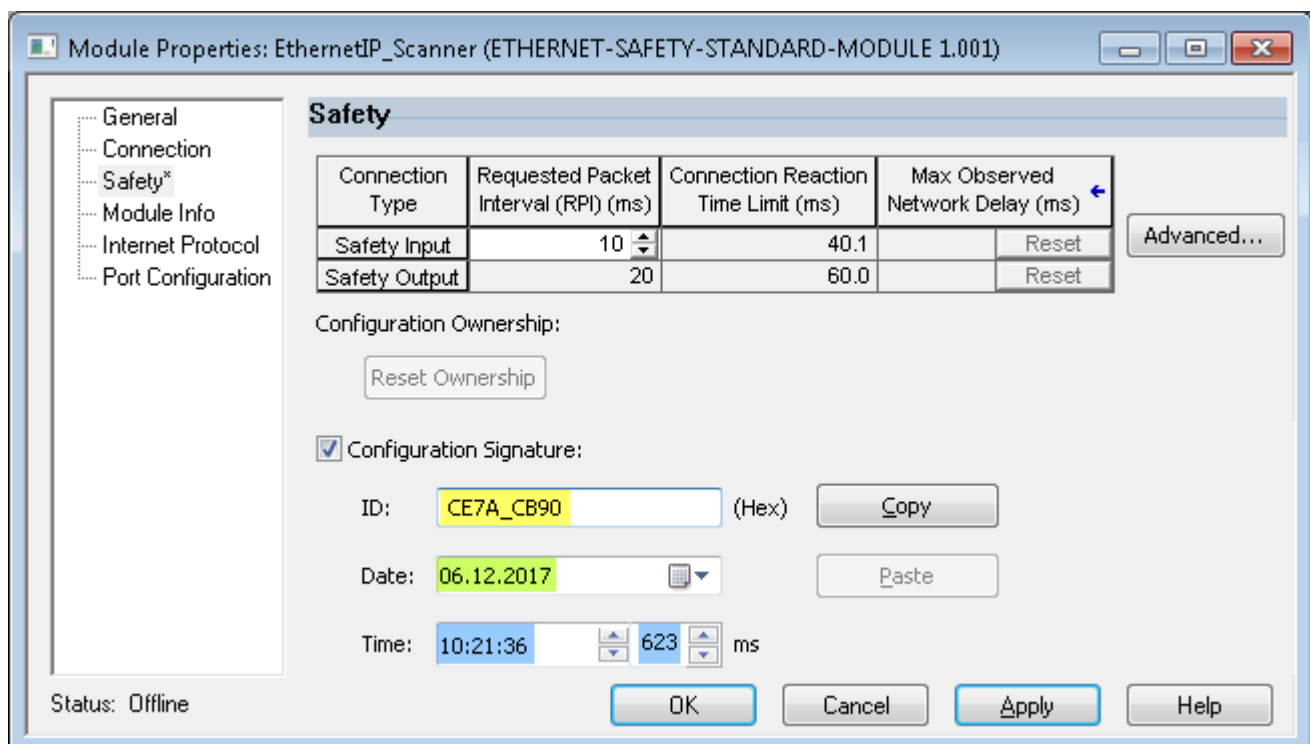

Figure 39: Studio 5000 – Configuration Signature (Part 3)
- ▶ Copy Configuration Signature (Figure 39):